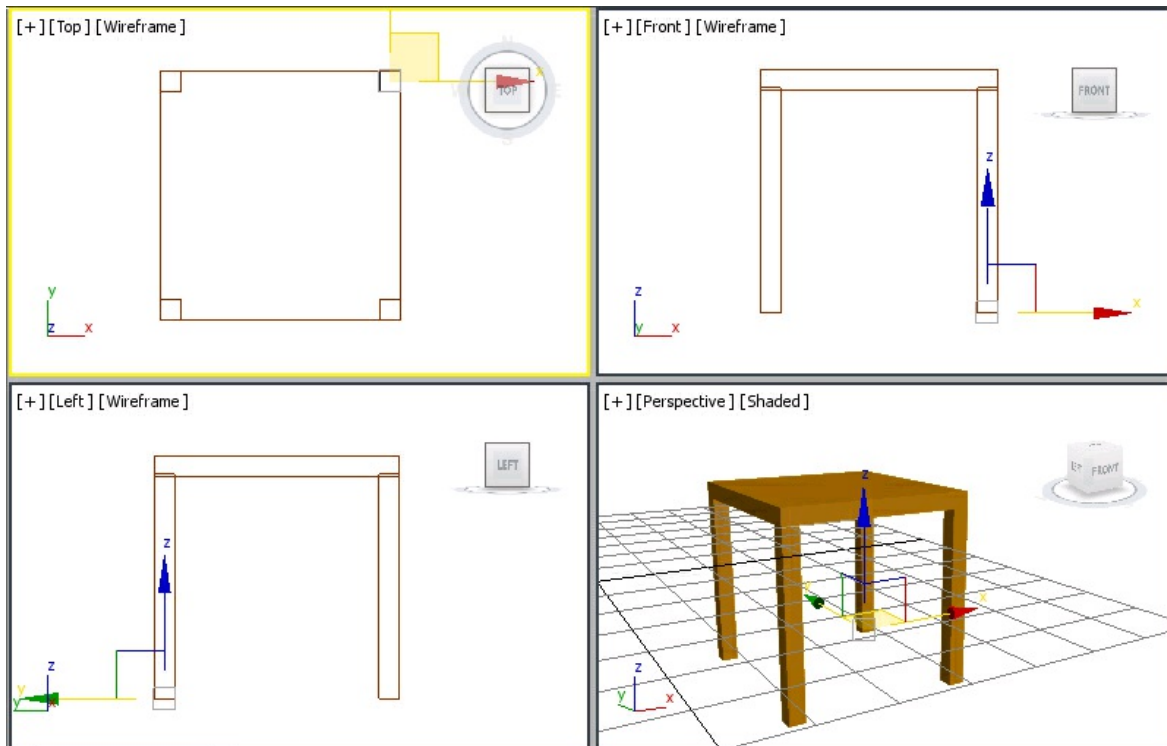

Figure 2-59 Alignment of legs with base
6. Create 3 copies of *leg01* as discussed earlier and align them, as shown in Figure 2-59.